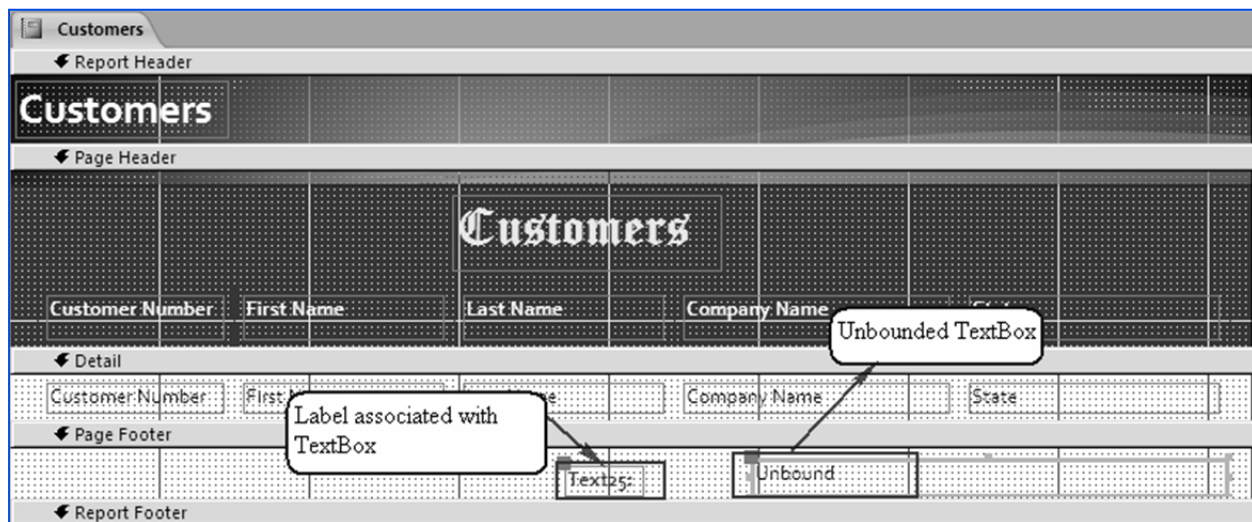

Fig. 2.4.5: Add Textbox to the Report
4. In a similar manner, add a Textbox control `abl` to the *Page Footer* of the report from *Design ribbon -> Controls* tab. The resultant report appears, as shown in Fig. 2.4.5.